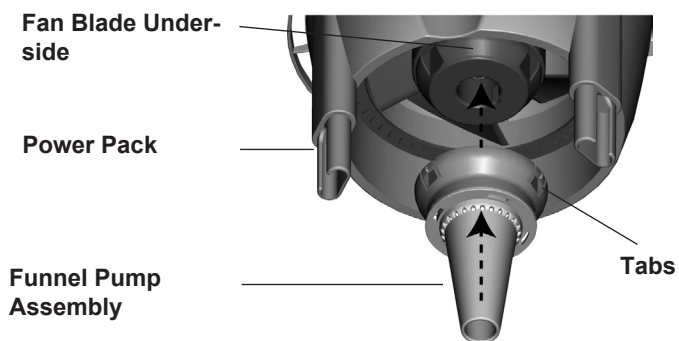

Figure 19
- Attach the Funnel Pump Assembly to the Power Pack by engaging the three tabs on the underside of the fan blade. See Figure 19.